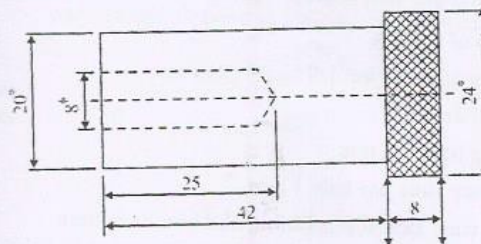

Fig.8
- (b) A mild steel shaft, shown in Fig. 8 is to be turned from a 24 mm dia bar.